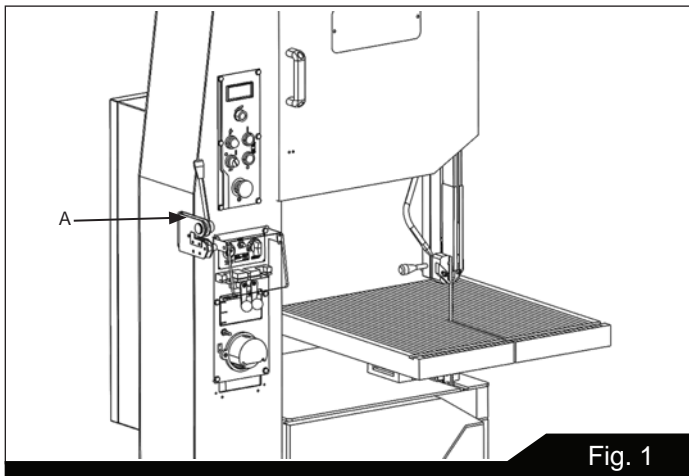

Fig. 1
3. Remove two socket head cap screws from left side of vertical column. Attach shear assembly (A, Figure 1) to column by inserting screws.